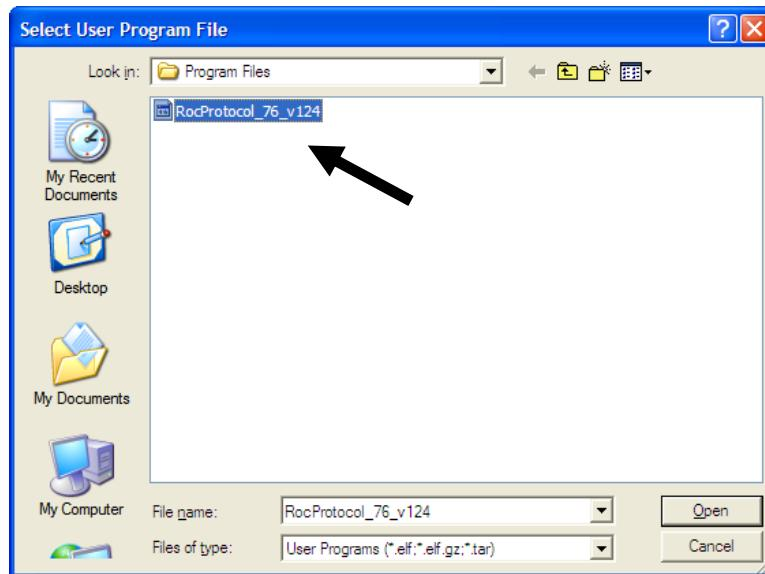

Figure 2. Select User Program File
5. Click **Browse** in the Download User Program File frame. The Select User Program File screen displays (see *Figure 2*).
6. Select the path and user program file to download from the CD-ROM. (Program files are typically located in the Program Files folder on the CD-ROM). As *Figure 2* shows, the screen lists all valid user program files with the .TAR extension: